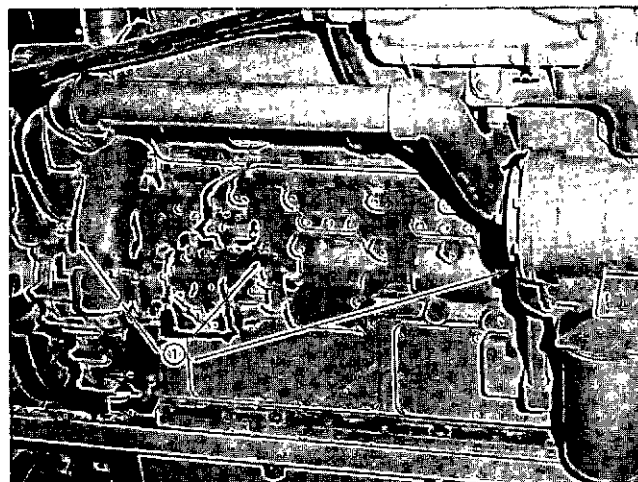

Fig. 0-1, V40033. Water drain points
3. Drain water from water pump, cylinder block (there are two drain cocks for each cylinder bank), radiator or heat exchanger, lubricating oil cooler housing, intercooler and expansion tank, as used. Fig. 0-1.